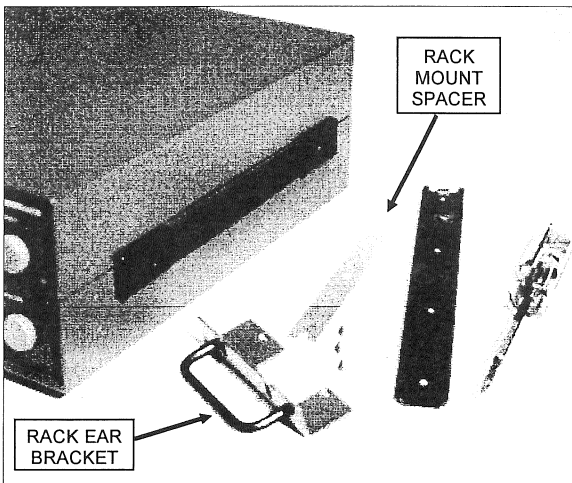

Figure 3-8 Slide Rack Mounting Kit, Right End
4. Align the rack mount spacer to the right side of the instrument. (The spacer fits into the recess formed by the the covers. Three holes in the spacer align with three matching holes in the chassis; see Figure 3-8. Do not insert screws at this time).